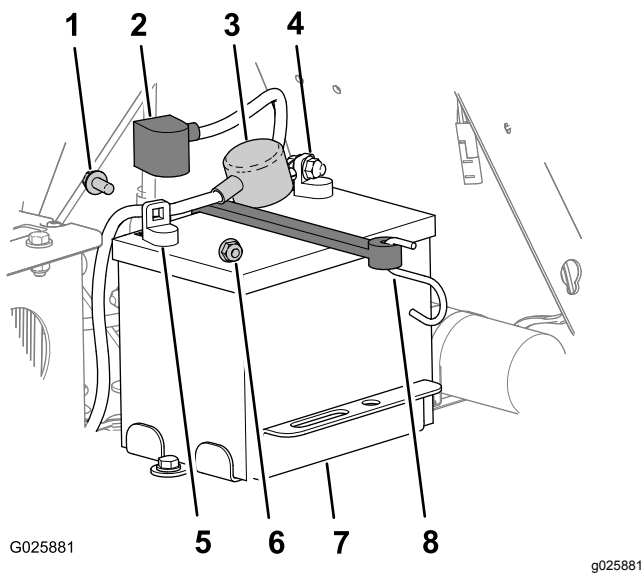

Figure 47
3. On the battery, lift the black terminal cover from the negative cable (Figure 47).
4. Disconnect the negative battery cable from the negative (-) battery terminal, and remove the cable from the battery (Figure 47).
5. Slide the red terminal cover off the positive battery terminal (Figure 47).
6. Disconnect the positive (red) battery cable, and remove the cable from the battery (Figure 47).
7. Remove the hook of the battery strap from the battery tray (Figure 47), and remove the battery.
1. Place the battery onto the machine (Figure 47).
3. Install the positive (red) battery cable to positive (+) battery terminal with a flanged bolt and flanged nut (Figure 47).
5. Install the negative battery cable and the ground wire to the negative (-) battery terminal with a flanged bolt and flanged nut (Figure 47).